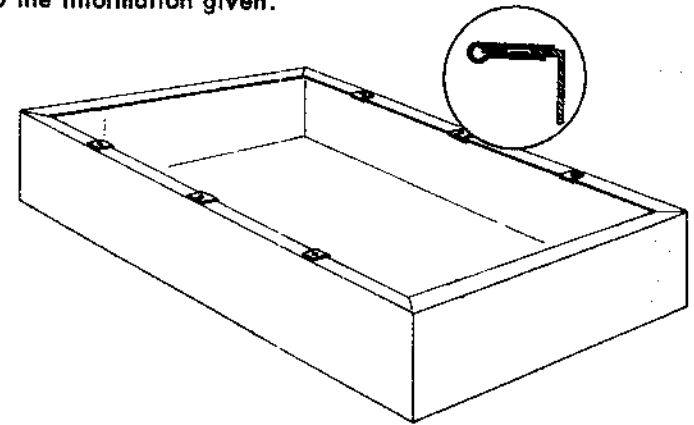

Fig. 6
6) Press a speed nut in place over each hole on the bottom flange of the chassis (see Fig. 6).